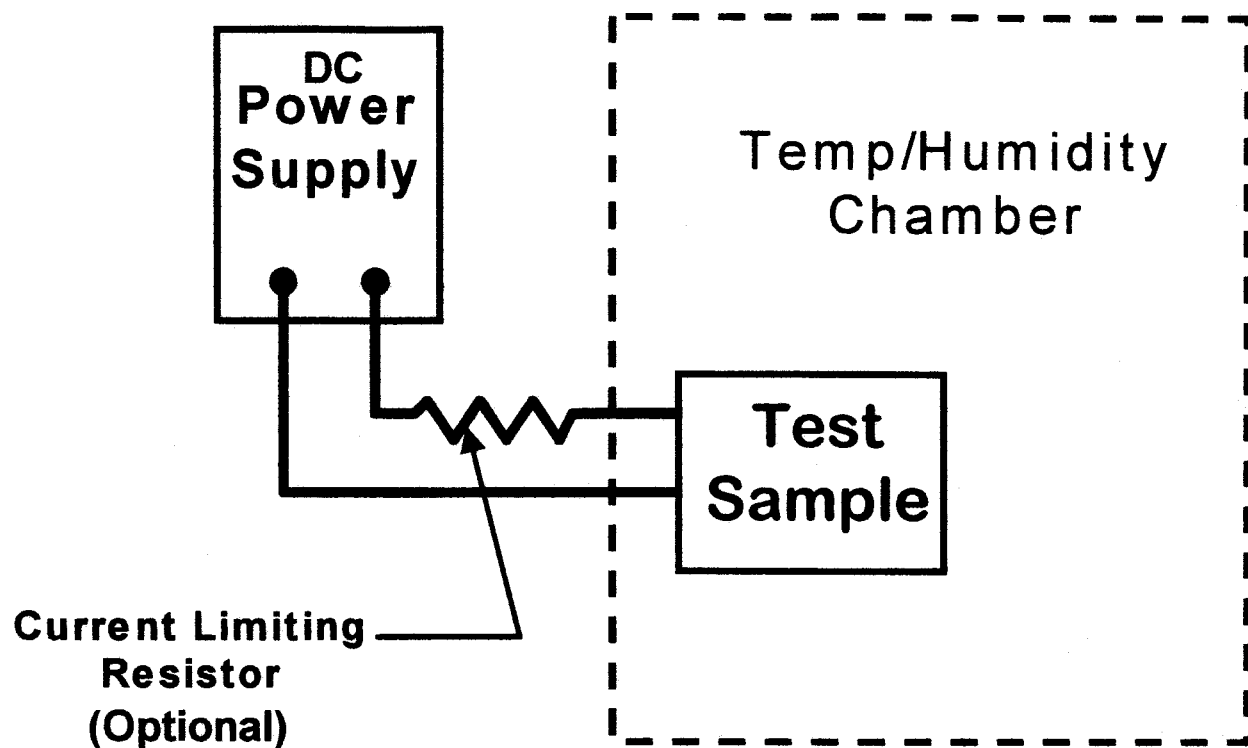

FIG. 1 Test Setup
7.2 Test Setup (Fig. 1):
7.3.1 Apply voltage to the test points. Limit the current to prevent high current from disintegrating the dendrites caused by silver migration. Use a current limiting resistor to limit the current to 2 milliamps or less. (See Fig. 1)